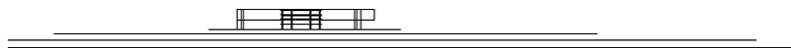

FIGURE 17.4 : The contour lines as viewed from the side
4. Select the Front or Left face of the ViewCube to view your model from the side, and verify that each of the contours is lower than the previous (see Figure 17.4).